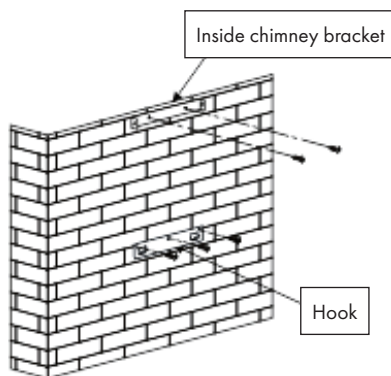

Figure 1
3. Install the hook at a suitable place once the installation height is fixed, in a straight line. The fixed position of the inside chimney bracket determines the position of the chimney (see figure 1).